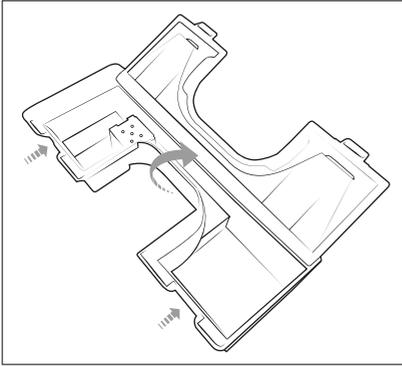

Fig. 11
- 4) Hold the dirty water tank **13** over a wash basin and press the two side release buttons upwards one after the other (see Fig. 11). Flip open the dirty water tank **13** and pour out the dirty water.